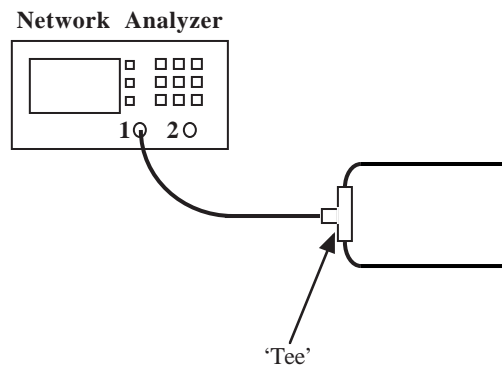

Figure 4-13: Block diagram of the setup for network #1
1. Attach a N-type co-axial cable to channel 1 of the network analyzer. Attach one “Tee” to the end of the cable. Attach a co-axial cable to each of the arms of the “Tee” as shown in Fig. 4-13. Leave the ends of the co-axial cables unterminated.